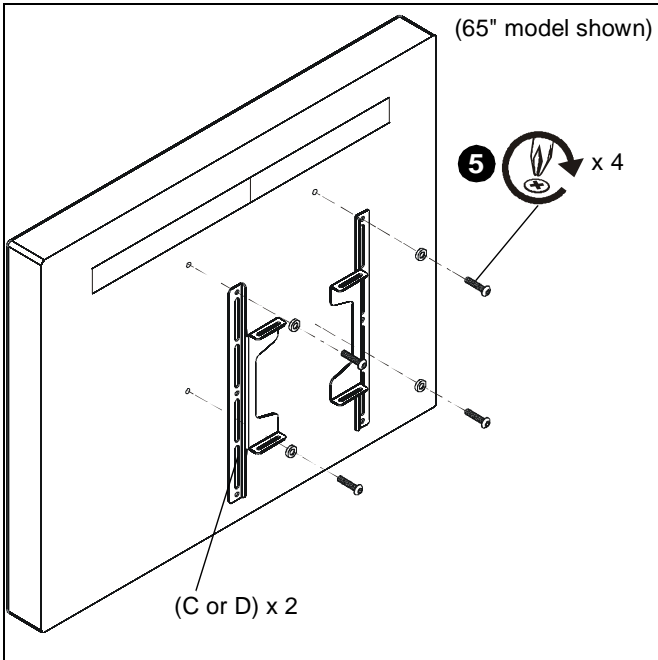

Figure 6
5. Use four removed screws and washers to secure interface brackets (C or D) to back of display. (See Figure 6)